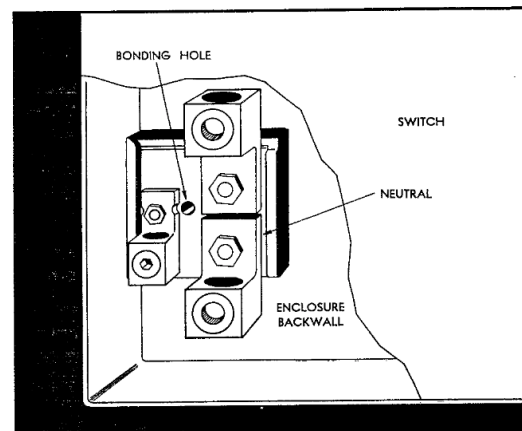

Fig. 2. Typical installation of TNI65 Neutral Kit
4. Install the #2-600MCM line and load lugs using nuts and lock washers provided (see Fig. 2).
5. If bonding is required, insert the long bonding screw through the hole in the neutral (Fig. 2) and thread it into tapped hole in switch back wall.